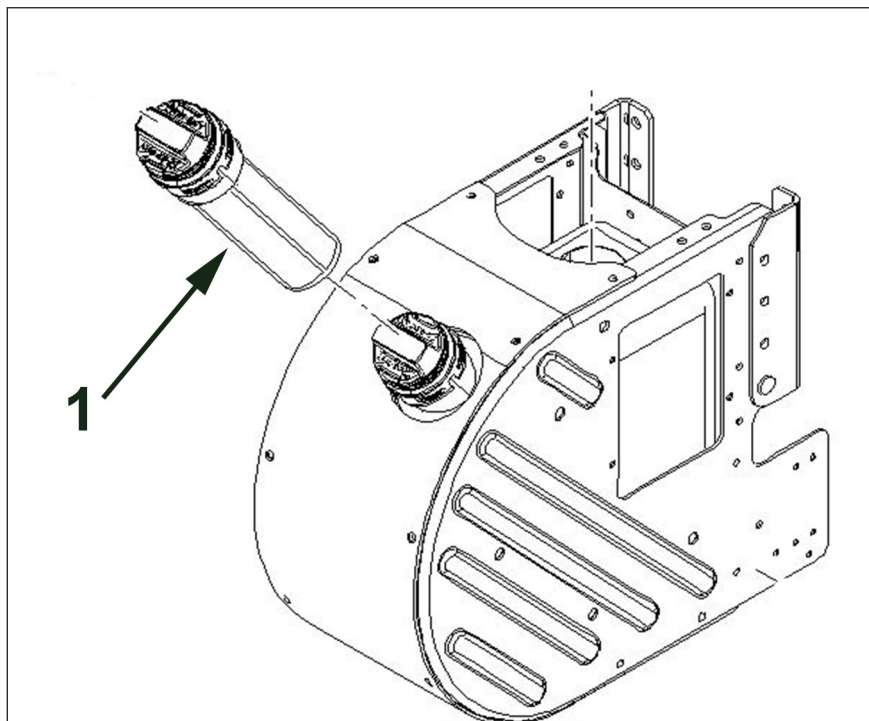

Figure 6.13 - Filter Screen
3. Remove the DEF screen filter from the filler neck, item 1 Figure 6.13.